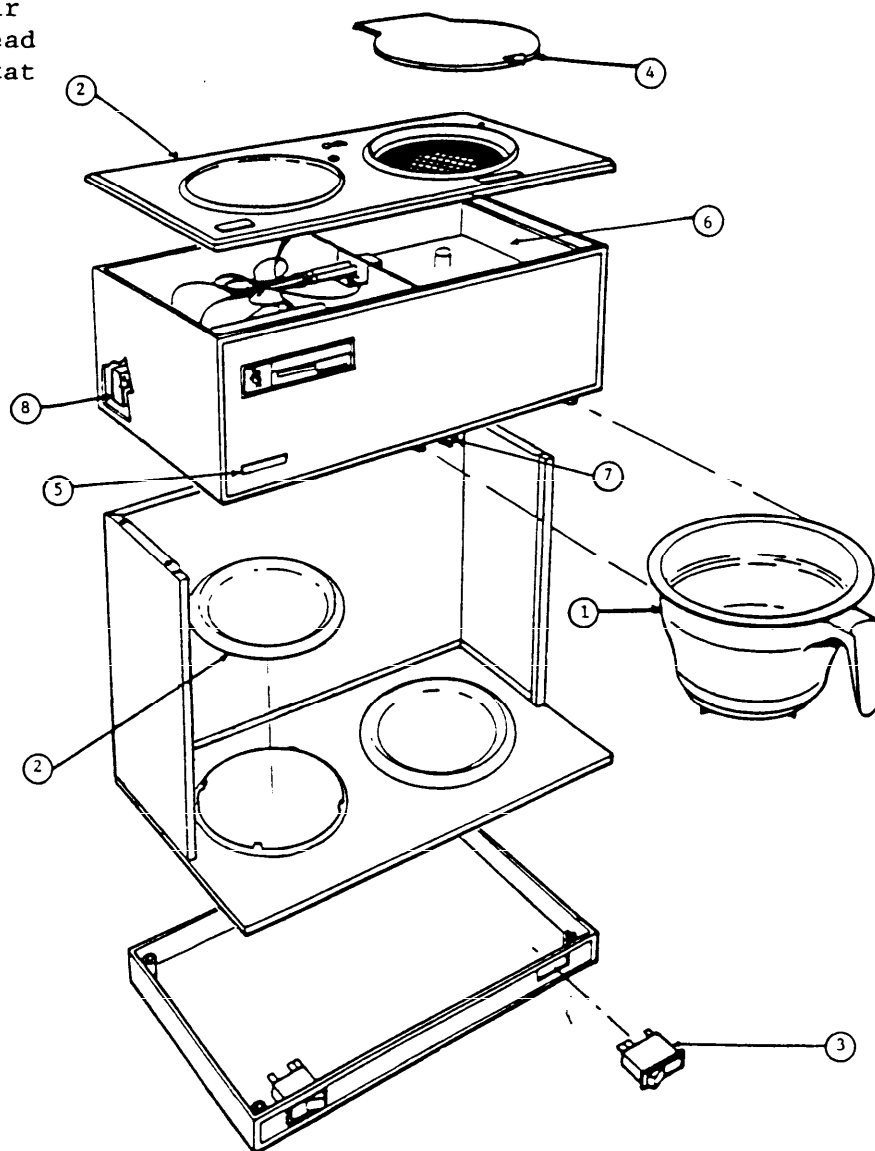
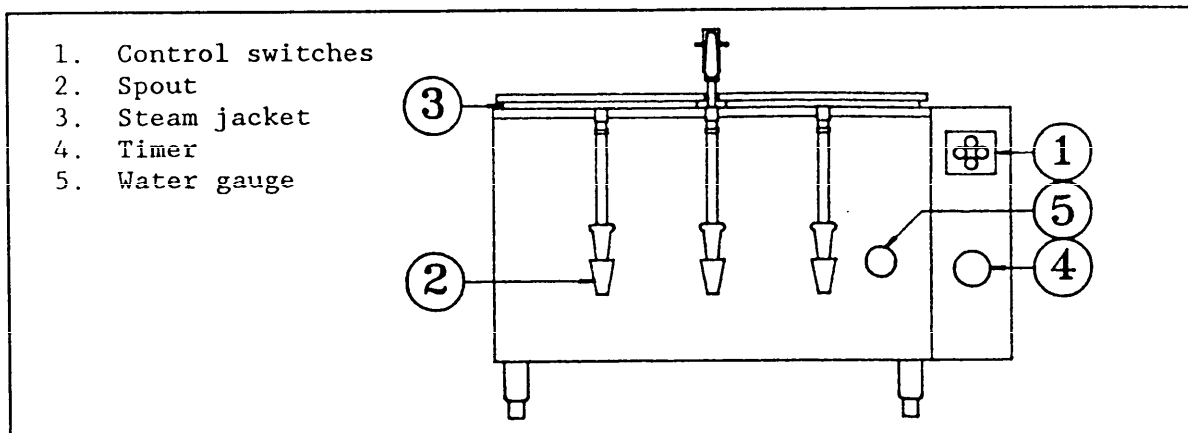

Figure 6
Figure 7
4.5.2 Major Coffee Maker and Urn Components. Major coffee maker components are deflector, drain valve, heating elements, siphon tube, and the components shown on Figure 6. Major urn components are agitator (on some units), heating element, low water cut-off, thermostat, and the components shown on Figure 7.